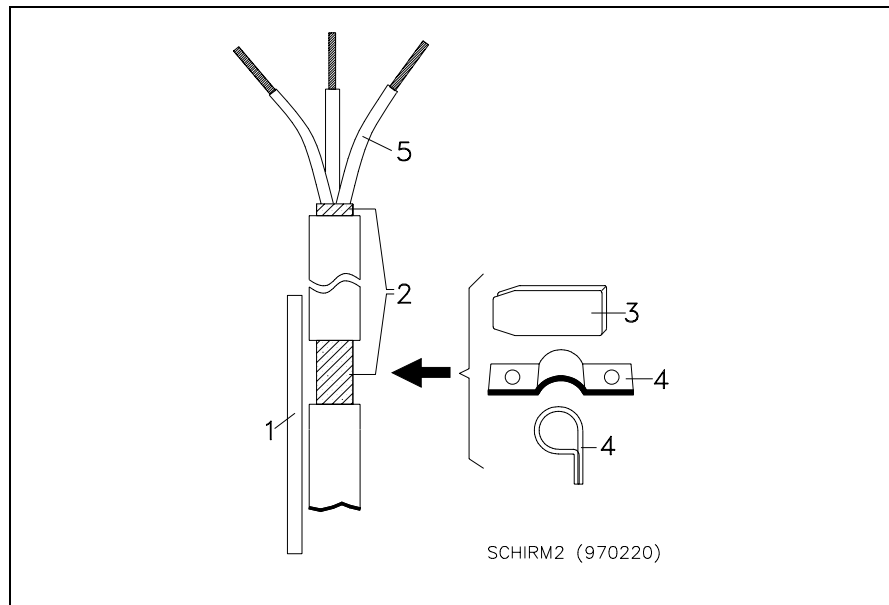

Figure 2:
- ◆ Shields, which must be as flat and as resistant-free as possible, must be connected to the grounded bus-bar or mounting panel (1) using staple brackets (4) or spring clamps (3). In this way the shield (2) can be fed without a break close to the connection point of the cable and the unshielded portion of the cable can be kept extremely short (see Fig. 2).